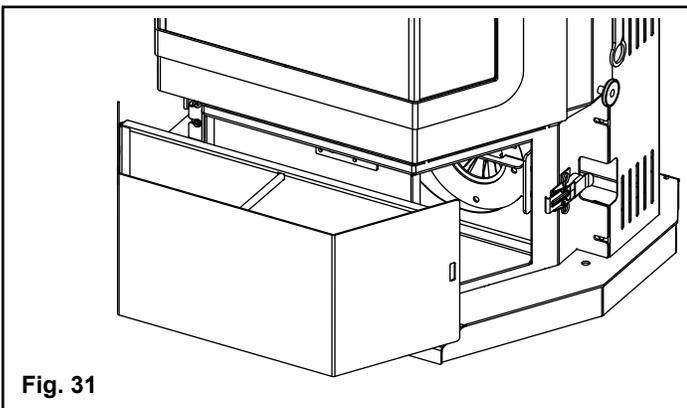

Fig. 31
3. Slide ash pan forward enough to lift with center handle. Empty ashes and reinstall ash pan. Fig. 31
2. Remove the ash pan. Fig. 31.